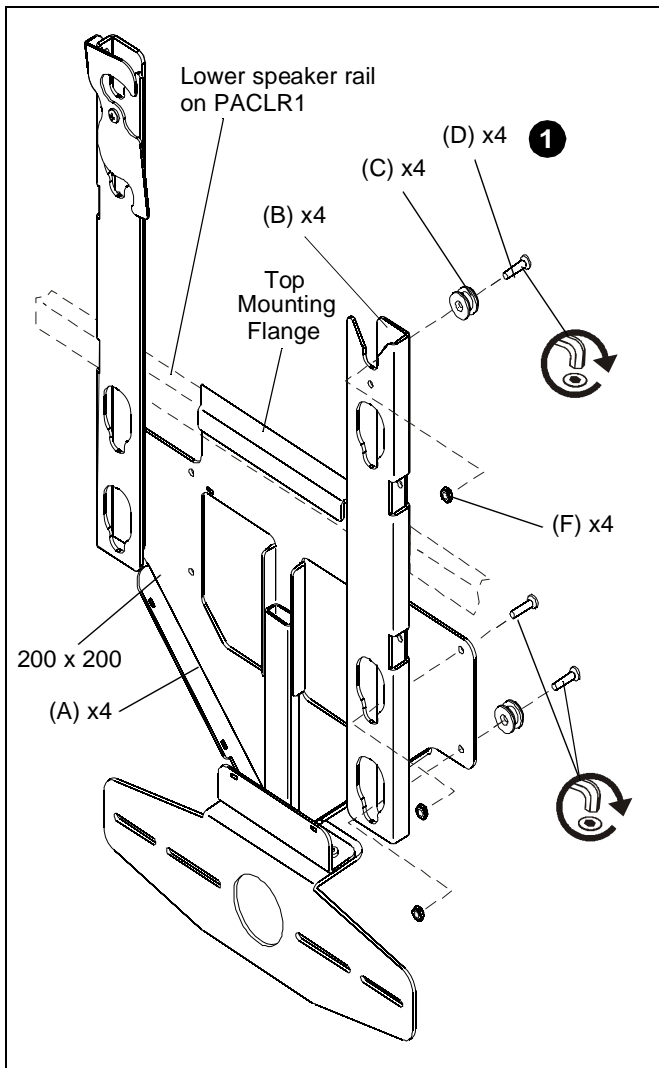

Figure 1
The PACCC1 is designed to accommodate both 200 x 200 and 400 x 400 VESA display mounting patterns. If the 200 x 200 pattern is required. If 200 x 200 pattern is required use the inner mounting holes when installing uprights (B). (See Figure 1)
1. Install four mounting buttons (C) to uprights, and uprights (B) to support plate (A) using six button head cap screws ((D and E) and six lock nuts (F). (See Figure 1)